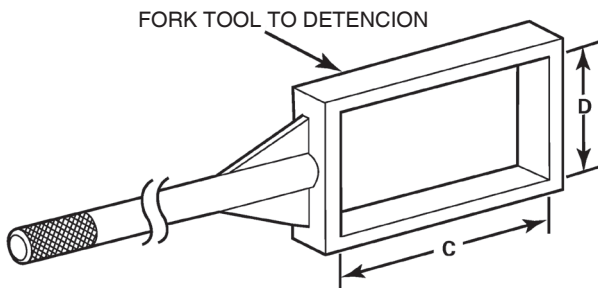

Figure 10.2
2. Calculate dimensions C and D of the fork bar by adding 0.125-0.250-inch to dimensions A and B of the fork. Figure 10.2.
3. To make the box section, cut and weld 1-inch x 2-inch mild steel square stock according to dimensions C and D. Figure 10.2.
4. Cut a 1,20 mt x 1.25-inch piece of mild steel round stock to make the fork bar handle. Center weld this piece to the box section. Figure 10.2.
- To increase fork bar rigidity: Weld two angle pieces onto the handle. Figure 10.2.